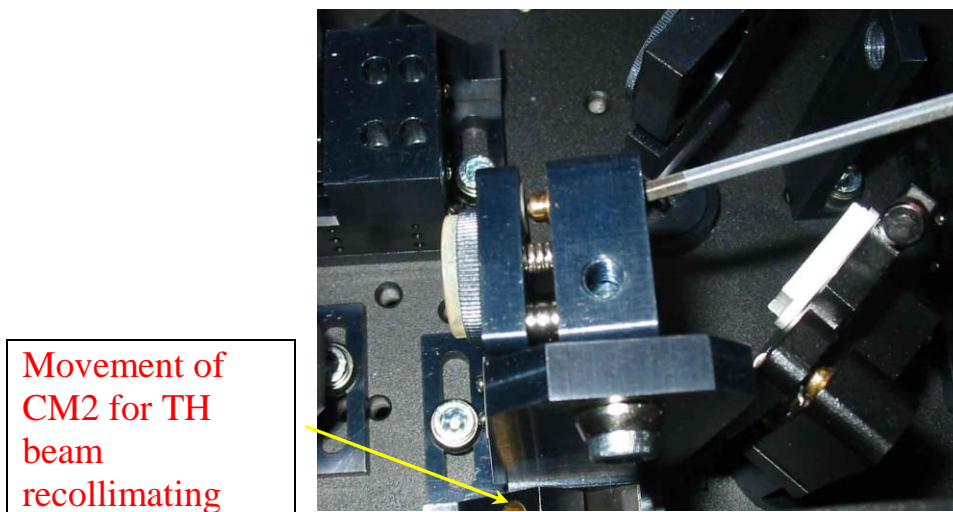

Fig. 10.
- 23) *Check that F beam goes through the S3 and S4 and aperture A2 properly. F beam must strike near at the center of aperture A2. SH beam reflected from S4 must pass through the output freely. If not adjust the screws of CM2 holder (Fig.10) to direct SH beam. Remove the gag A2 for the output of F the beam.*
- 27) *You can adjust a screw of CM2 table (Fig.10) to improve the quality of TH beam.*